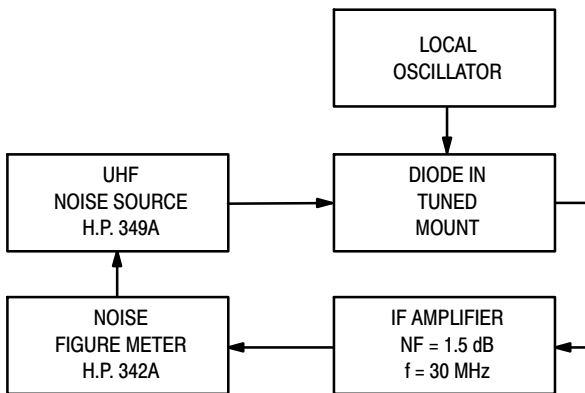

Figure 5. Noise Figure Test Circuit
- Note 2 – Noise figure measured with diode under test in tuned diode mount using UHF noise source and local oscillator (LO) frequency of 1.0 GHz. The LO power is adjusted for 1.0 mW. IF amplifier  $NF = 1.5 \text{ dB}$ ,  $f = 30 \text{ MHz}$ , see Figure 5.